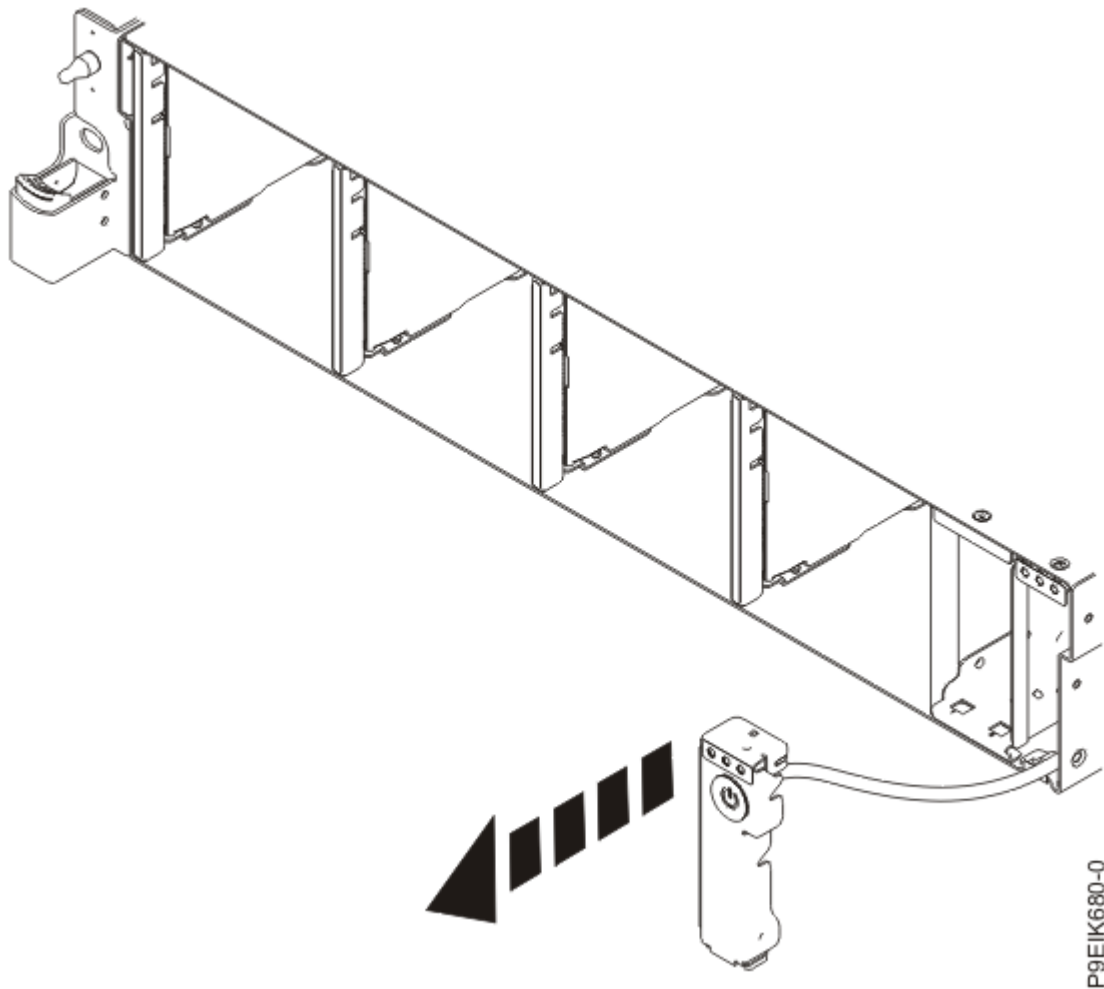

Figure 105. Pull out the power switch and cable
6. Pull the power switch from the system as shown in Figure 105 on page 119.